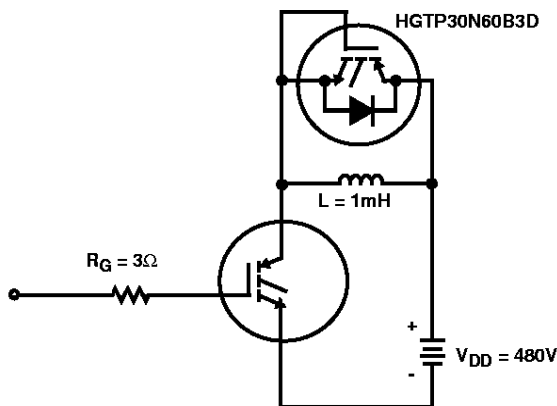

FIGURE 17. INDUCTIVE SWITCHING TEST CIRCUIT
| Current Turn-On Delay Time          | $t_{d(ON)I}$    | IGBT and Diode at $T_J = 25^\circ\text{C}$$I_{CE} = I_{C110}$$V_{CE} = 0.8 V_{CES}$$V_{GE} = 15V$$R_G = 3\Omega$$L = 1mH$Test Circuit - (Figure 17)  | -   | 36   | -    | ns                 |
| Current Turn-On Delay Time          | $t_{d(ON)I}$    | IGBT and Diode at $T_J = 150^\circ\text{C}$$I_{CE} = I_{C110}$$V_{CE} = 0.8 V_{CES}$$V_{GE} = 15V$$R_G = 3\Omega$$L = 1mH$Test Circuit - (Figure 17) | -   | 32   | -    | ns                 |
- Values for two Turn-On loss conditions are shown for the convenience of the circuit designer.  $E_{ON1}$  is the turn-on loss of the IGBT only.  $E_{ON2}$  is the turn-on loss when a typical diode is used in the test circuit and the diode is at the same  $T_J$  as the IGBT. The diode type is specified in Figure 17.